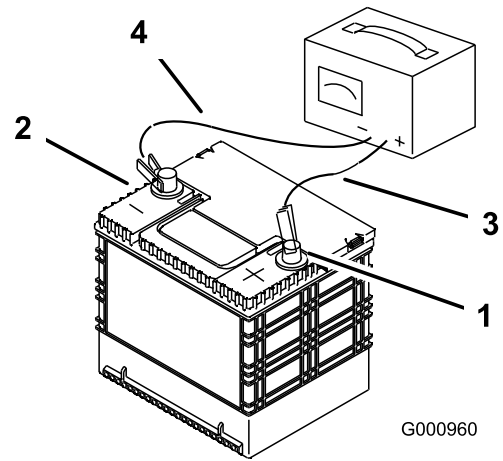

Figure 75
2. When the battery is fully charged, unplug the charger from the electrical outlet, then disconnect the charger leads from the battery posts (Figure 75).